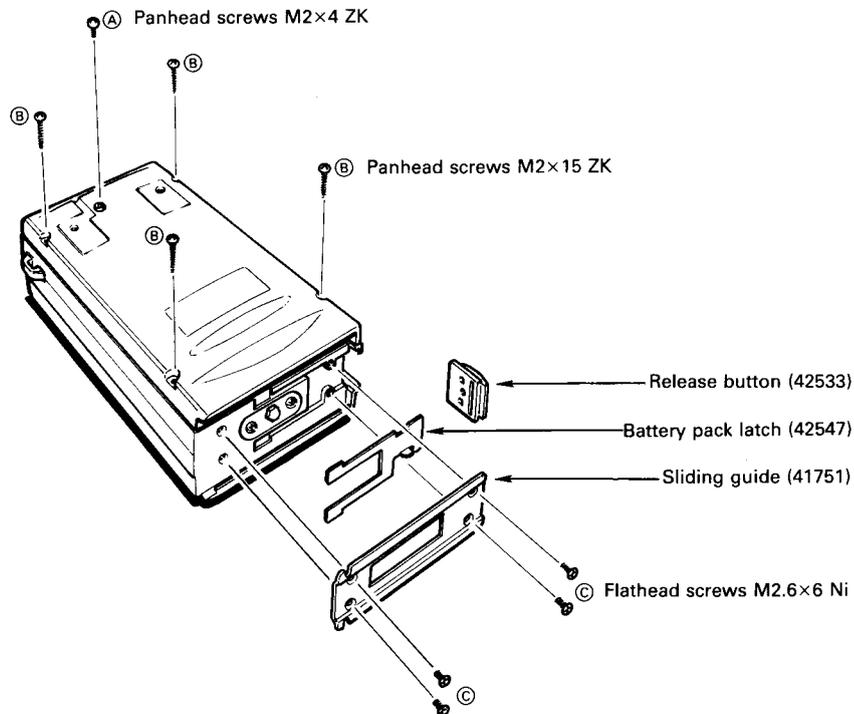

Fig. 5-1-1
2. Remove screw (A), 4 screws (B) on the rear panel and 4 screws (C) on the bottom as shown in Fig. 5-1-1.